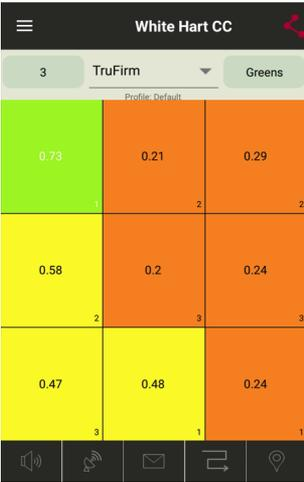
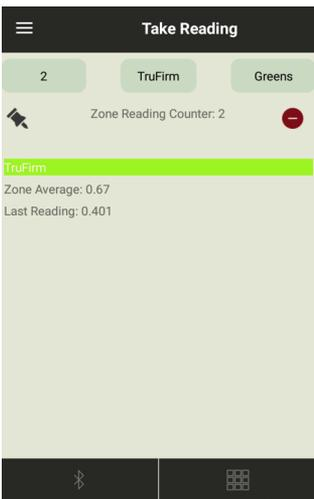

Figure 3a. Grid Mode
Figure 3b. Grid Mode Readings screen
11. For Grid mode, confirm that the meter type you are using appears at the top of the screen (fig 3a). Tap a zone to bring up the **Take Reading** screen (fig 3b). Freeform readings will appear as pushpins on the map (fig. 4).